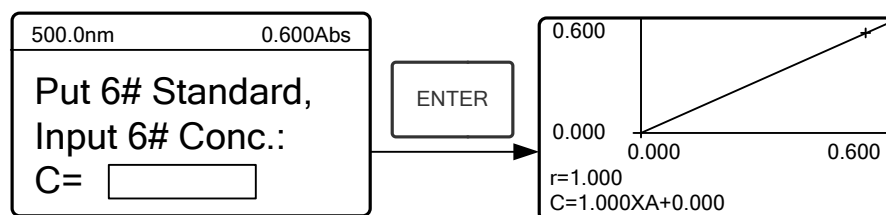

Fig. 4-13
- ★ Repeat the above step till the last sample's concentration is finished, press  to confirm. Then the Standard Curve and its equation will display on the screen automatically. (Fig. 4-13) At the